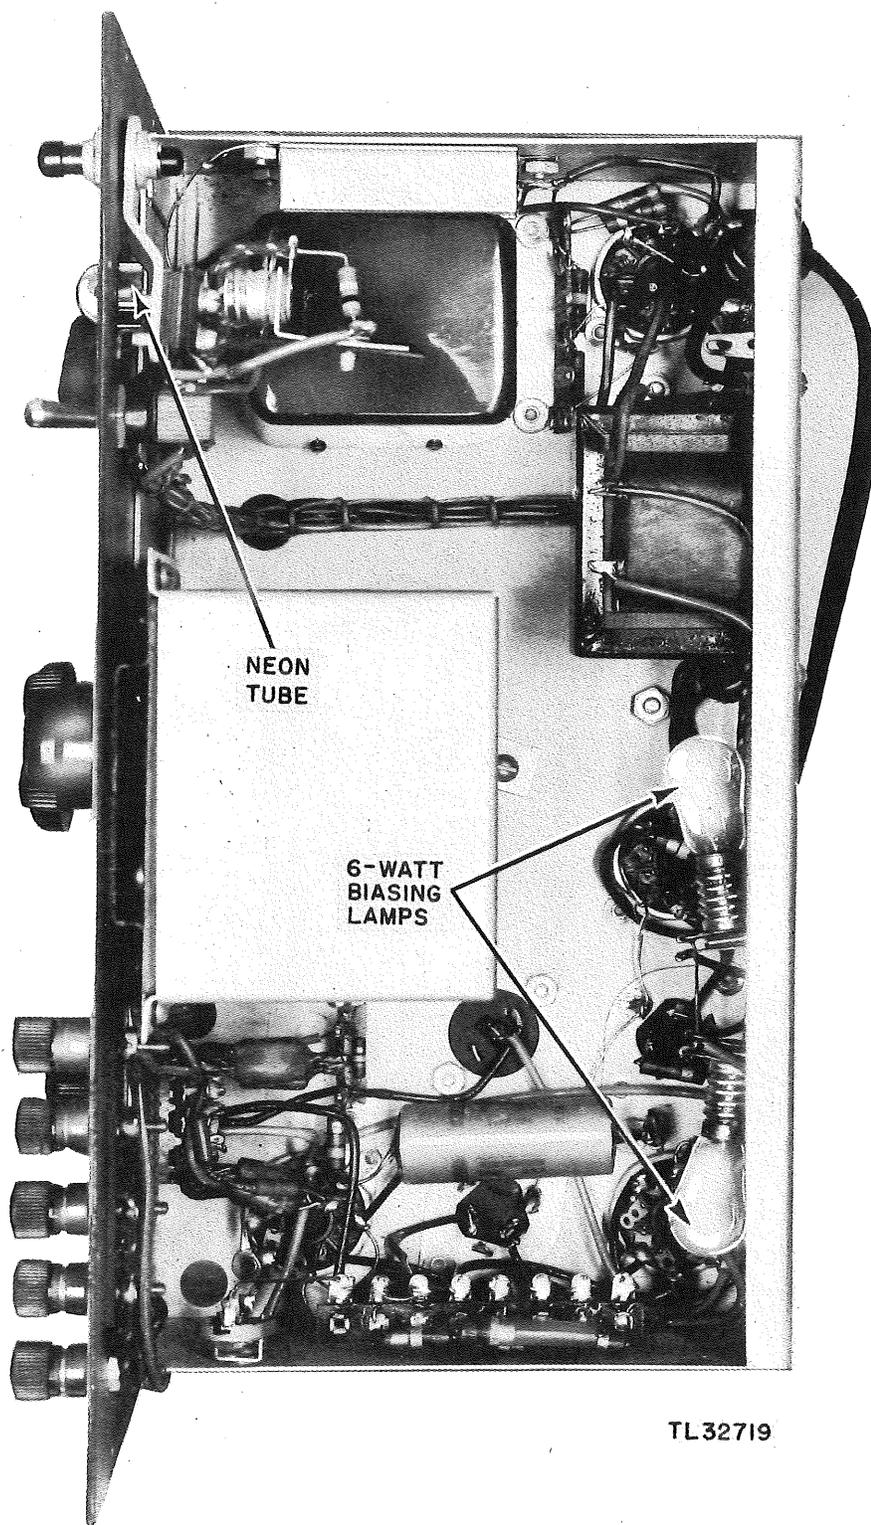

Figure 40. Audio Oscillator I-151, Hickok model 198, bottom view, case removed, showing lamp location.
f. Note that the resistance of the 6-watt biasing lamps (VT-6), (fig. 40), should measure 300 ohms each, or 600 ohms from the cathode of 6SJ7 (VT-2) to ground.
g. Figures 40 and 41 show the chassis removed from the case and indicate tube locations.